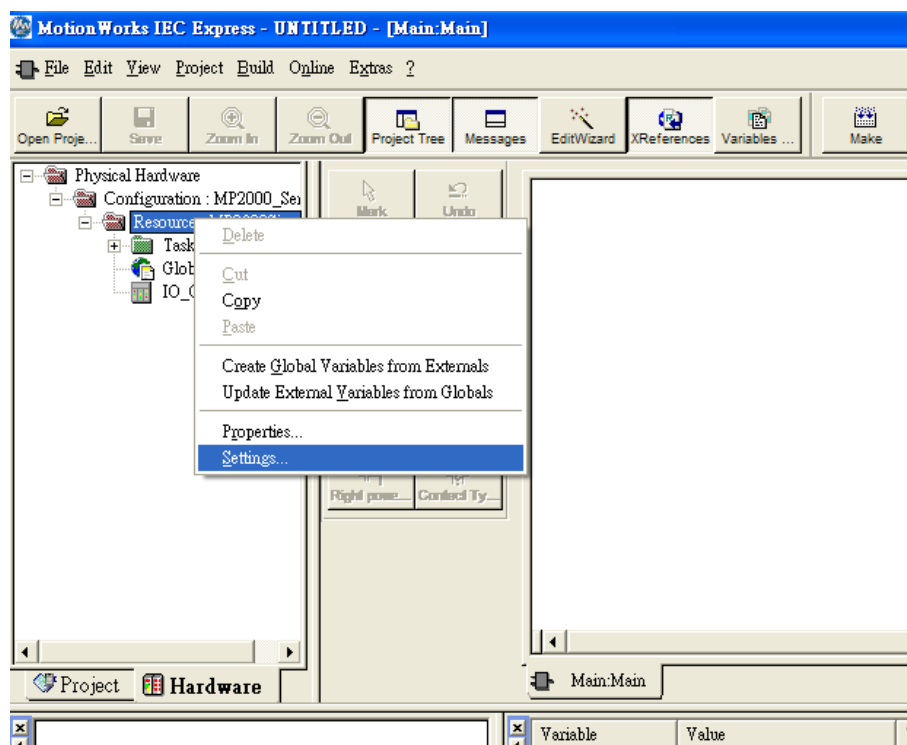
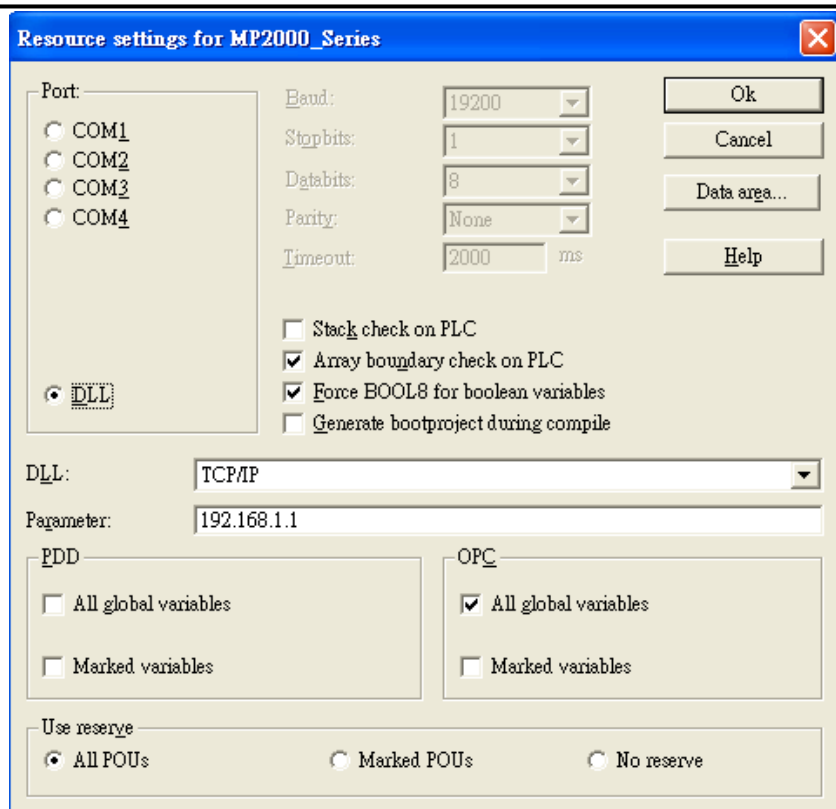

Fig. 3 Motion Works IEC Express – Settings
Fig. 4 Resource Settings
Step 3. When download Project to device (MP2300Siec), please go to (Fig. 3) Resource->Settings to access setting dialog (Fig. 4) for setting MP2300Siec IP address.